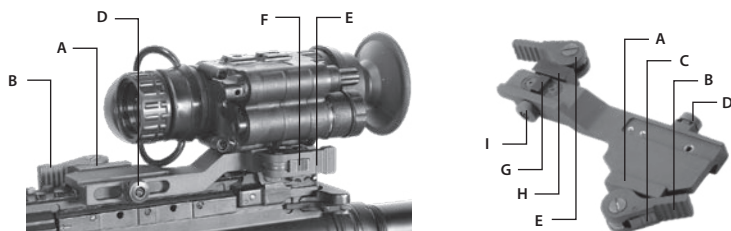

FIGURE 3-4. MOUNTING THE NYX-14 TO A WEAPON WITH A QUICK-RELEASE PICATINNY MOUNT ADAPTER
1. While pushing down on the lever holder (C), turn the lever (B) backwards to loosen the QRM clamping device (A).
2. Install the QRM on the weapon rail by inserting the stop (not shown in Figure 3-4) into one of transverse slots of the weapon rail.
3. To secure the QRM onto the weapon rail, turn the lever (B) forward. Secure the clamping device (A) tightly to the weapon rail. To adjust the force of the lever clamp, loosen or tighten the nut (D) as necessary.
4. While pushing down on the lever holder (F), turn the lever (E) forward.
5. Install the NYX-14 on the QRM rail by inserting the stop (G) into the transverse slot of the unit rail.
6. Attach the NYX-14 to the QRM rail by turning the lever (E) backwards. Secure the QRM clamping device (H) tightly to the NYX-14 rail. To adjust the force of the lever clamp, loosen or tighten the nut (I) as necessary.